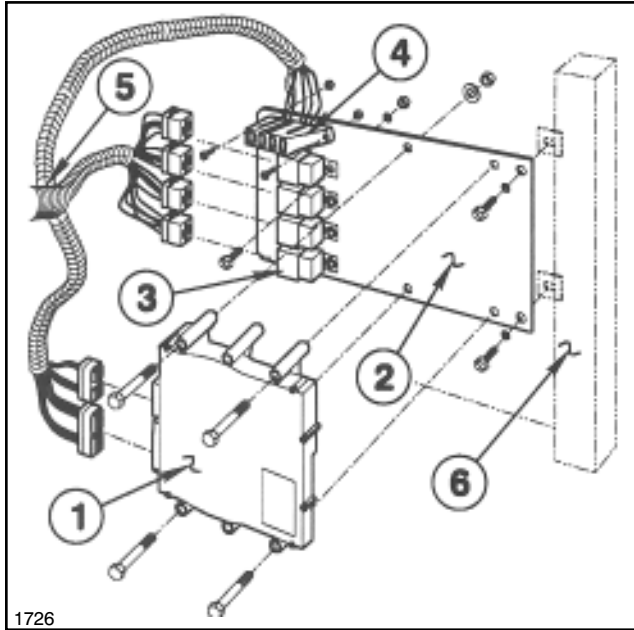

FIG. 2
1. Mount ECU to Plate using four (4) 1/4 NC x 2-1/2" hex hd cap screws, lock washers and hex nuts. See FIG. 2.
2. Mount four (4) Relays to Plate using 1/4 NC x 5/8" hex hd cap screws, lock washers and hex nuts.
3. Mount Fuse Block to Plate using two (2) # 10 NCx5/8" rec. rd. hd. mach. screws and hex nuts.
5. Mount ECU plate to Vehicle post on right side under Dash, using two (2) 5/16 NC x 3/4" cap screws and lock washers. See FIG. 2.